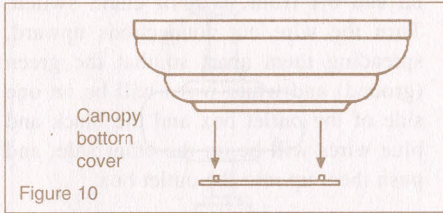

Figure 10
3. Remove the decorative canopy bottom cover from the canopy by depressing the three studs (Figure 10).